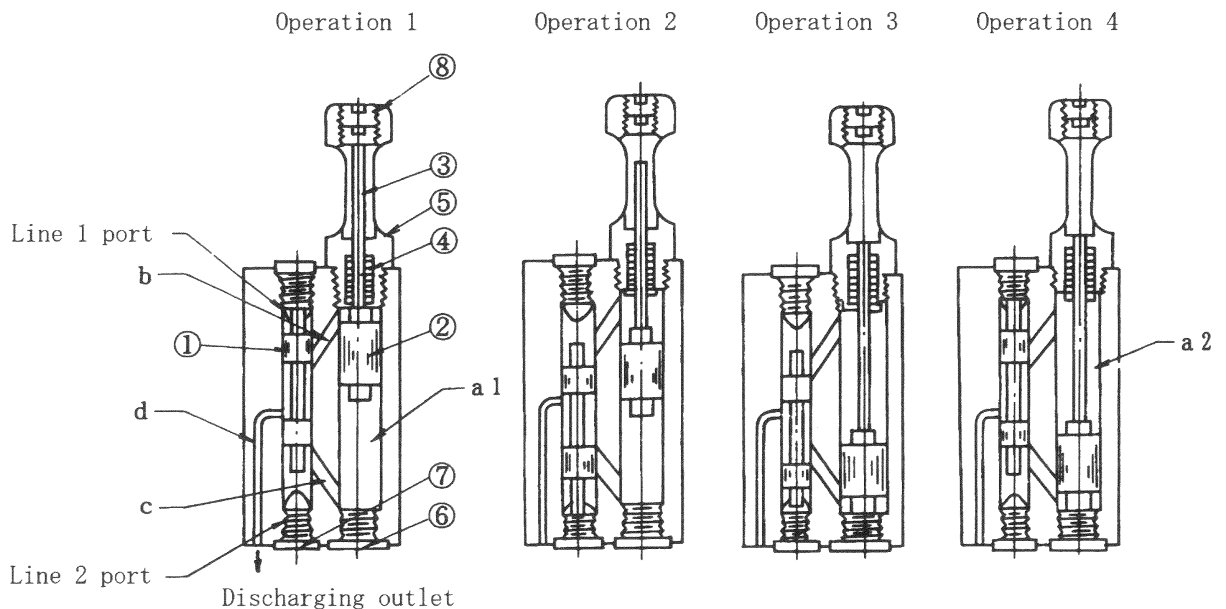

Fig. 1
2. Explanation of Construction and Operation (Refer to Fig. 1):